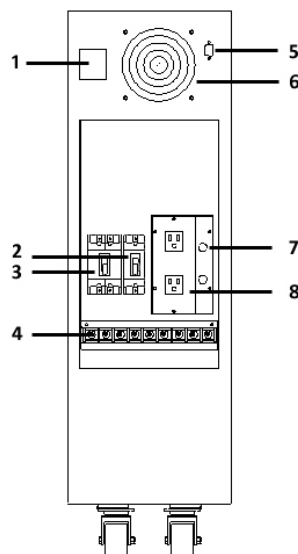
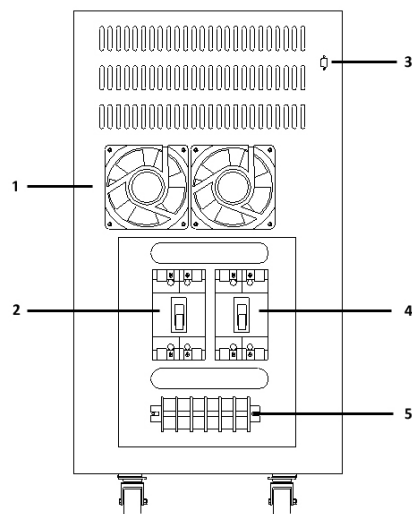

Figure 6 : 5KVA – 10KVA Rear Panel
Figure 7 : 15KVA – 20KVA Rear Panel
1. Check two N.F.B.s at rear panel (see Figure 6 & Figure 7) are at 「 OFF 」 position.
2. Switch on 「 2. Battery N.F.B. 」 (see Figure 6).
6. Switch off 「 Battery N.F.B. 」 and check again two N.F.B.s at rear panel (see Figure 6 & Figure 7) are at 「 OFF 」 position then start to install the UPS.
Please make sure the two N.F.B.s at rear panel (see Figure 6 & Figure 7) are at 「 OFF 」 position.
Please make sure the power that will be supplied to the external battery terminal block and input terminal block (see Figure 6 & Figure 7) of the UPS are completely cut off.